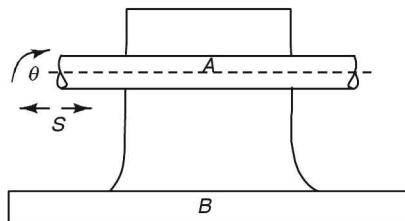

FIGURE 7.5 Cylinder pair: Translation and rotation.
- (c) *Cylindrical pair*: Such a pair has two degrees of freedom, namely that of rotation and translation parallel to the axis of rotation. These two motions have no relationship with each other. If a shaft has no collar at ends, the motion between elements A and B will be both of sliding and turning. These relative motions of rotation and translation can be expressed by coordinates θ and S respectively (Figure 7.5).